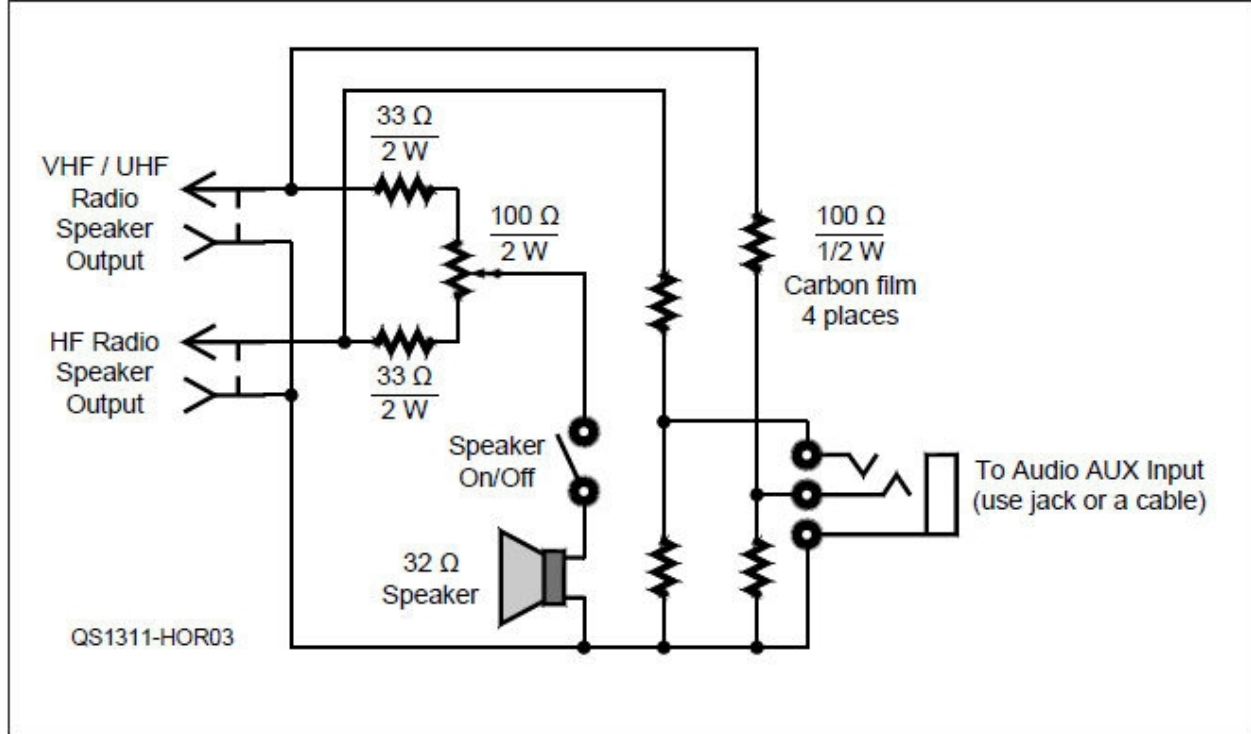
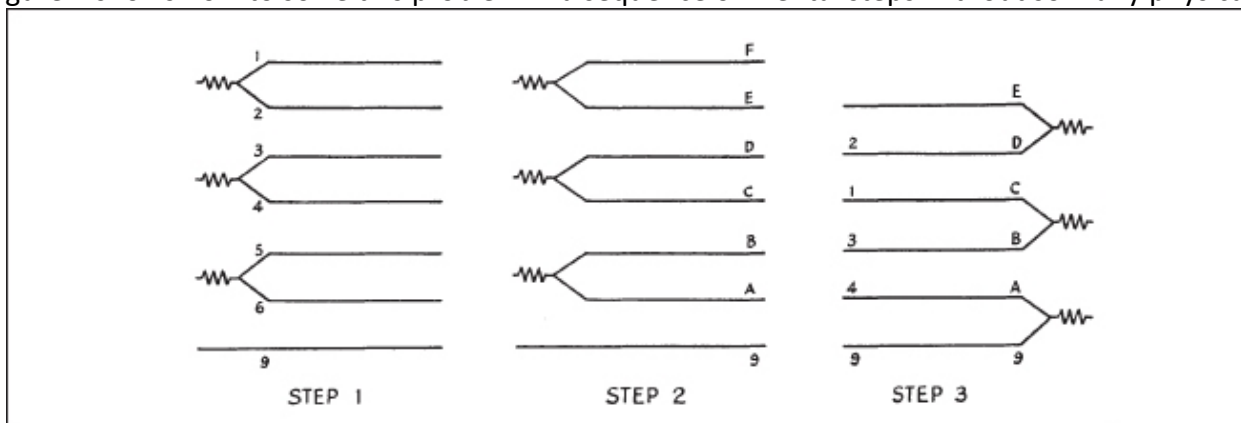

Figure 3 — The author’s combined system that allows monitoring through the speaker or through the vehicle audio system.
Figure 4 — By pairing wires and using the odd wire as a starting point, any number of wires can be identified with only one round trip between the ends.
Where else besides antenna switches and rotator control boxes can you find these “accidental mixers?” Many places, in fact, and you can see some in Figure 3. All of these circuits are often attached to external control or power cables that act as antennas to pick up RF and re-radiate mixing products or harmonics from rectified RF. Attaching a bypass capacitor across the diode renders it inert at RF.
Figure 3 — Several examples of rectifiers in applications where they might be subjected to strong RF signals with methods for connecting bypass capacitors. The ferrite bead shown (FB) can be one or more beads or a choke wound on a toroid or split core.
In my vehicle, I wanted to be able to switch the speaker on or off independently of the audio system so I could listen to both radios and some entertainment at the same time. Figure 3 shows how I have my circuit configured and Figure 4 shows a photo of the final product. The circuits of Figures 1 and 2 are connected "in parallel" to the radio audio outputs so that they can act independently.
Figure 4 — The completed speaker with the volume control, on-off switch, and cables for connection to the radios and vehicle audio system (white connector). [Ward Silver, N0AX photo]
Puzzle 3: Figure 4 shows how to solve this problem in a sequence of mental steps without so many physical steps.